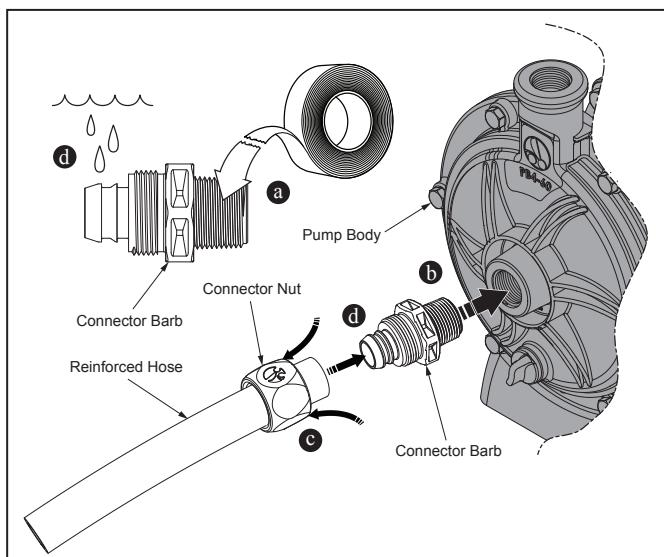

Figure 5. Prep and install Quick Connect barb and connector nut
- Mount the pump using two (2) concrete expansion anchors to ensure stability.
- Apply four (4) to six (6) wraps of Teflon® tape to the tapered thread of the connector barb. See Figure 5 (a).
- Thread and tighten the tapered thread of the connector barb into the pump port on the pump body. See Figure 5 (b).
- Slide connector nut onto the trimmed end of the hose with threaded end toward the cut end of the hose. See Figure 5 (c).
- Apply water to connector barb to help hose slide over barbs. Push trimmed edge of hose fully onto the connector barb. See Figure 5 (d).